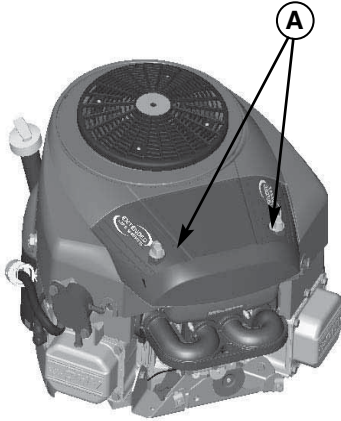

Figure 39. Air Filter Cover
1. Loosen the air filter cover screws (A, Figure 39) and remove the air filter cover.
6. Reinstall the air filter cover and tighten the screws (A, Figure 39).